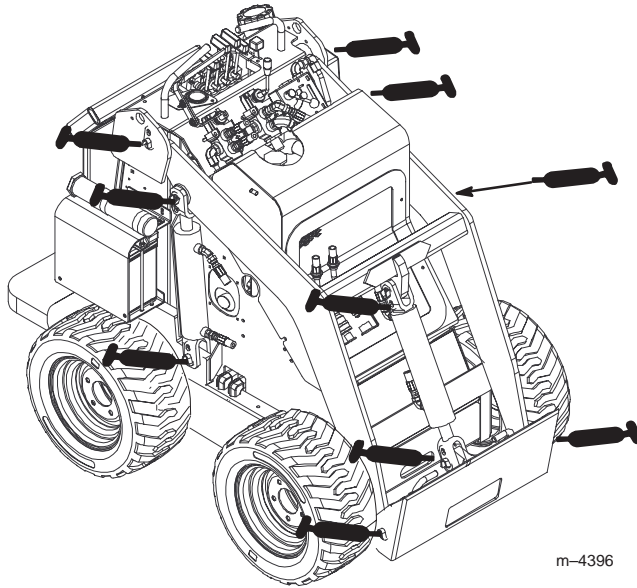

Figure 23
3. Connect a grease gun to each fitting (Fig 23 and 24).